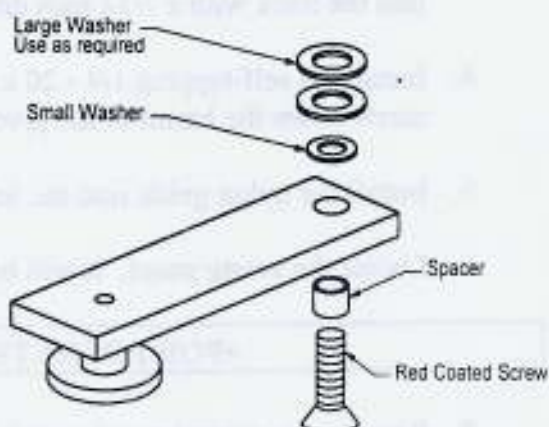

Figure 15
14. Assemble the limit arm (See Figure 15). Rest the wheel of the limit arm inside the upper rail of the swing panel. Install the red coated screw in the factory-drilled hole on the bottom of the header. Use one or two large washers as required.